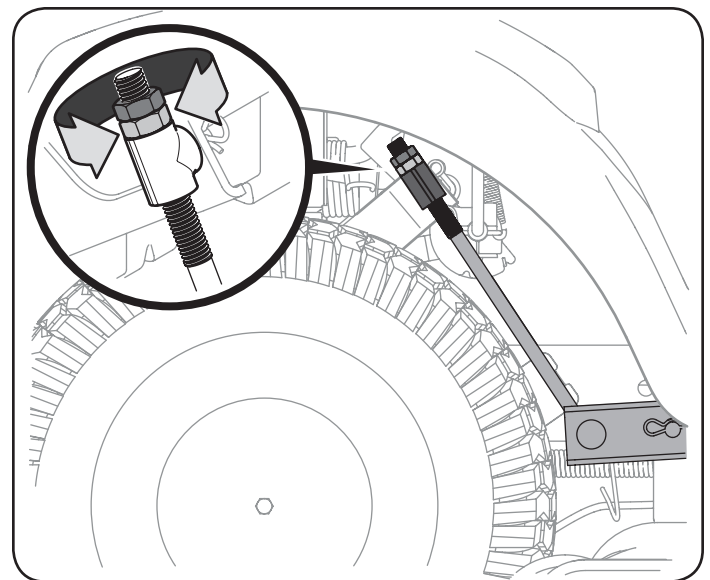

Figure 23
3. Under the rear fenders inside the wheels there is a lift adjustment rod for each side of the deck. See Figure 23.